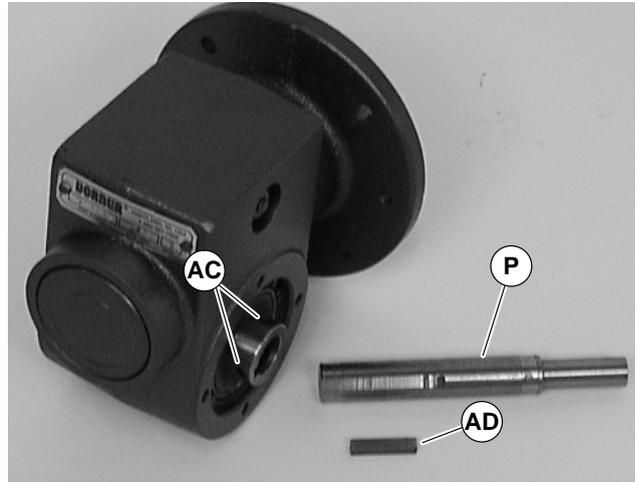

Figure 27
- Remove two (2) screws (AJ) and detach output shaft cover (AI).
- Remove gear reducer output shaft key (I).
- Loosen six (6) set screws (AC of Figure 27). Remove drive shaft (P) and key (AD).
- Replace the original shaft components into new gear reducer (see Figure 27).